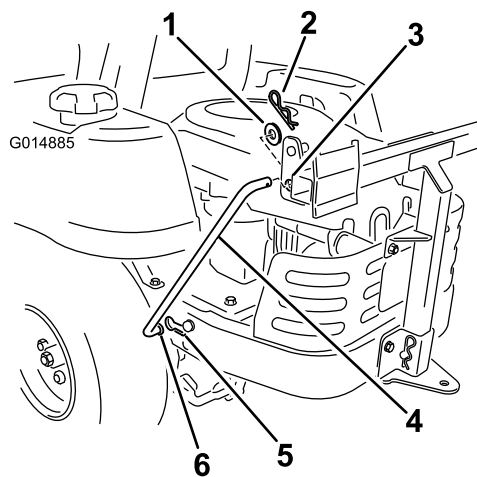

Figure 14
6. Insert the bent ends of the rod into the bagger frame as shown in Figure 14. Secure the end of the rod with a washer and hair pin.